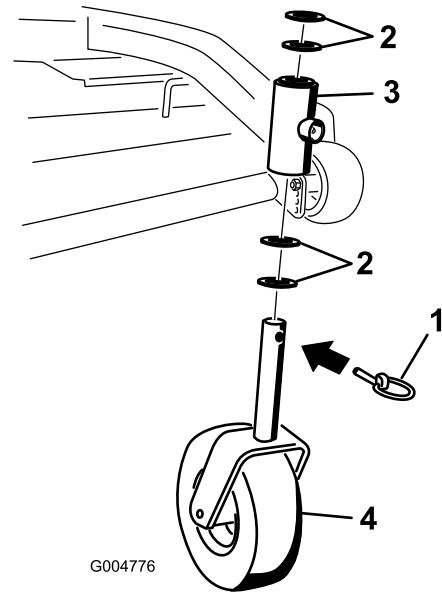

Figure 43
2. Remove the locking pin and spacer(s) from the top of the caster wheel fork (Figure 43).
6. Inspect the caster wheel fork for wear and replace if necessary (Figure 43).
7. Slide the caster wheel fork through the bushings in the mounting tube. Replace the spacer(s) onto the fork and secure with the retaining ring (Figure 43).